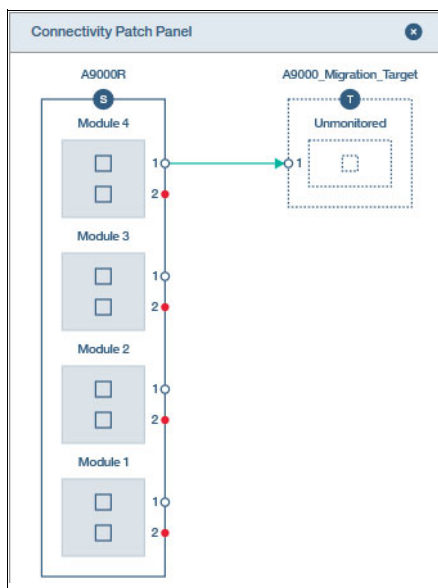

Figure 4-7 Connectivity details
- c. If the connection between IBM FlashSystem A9000R and the target system (IBM FlashSystem A9000) is successful, the connection is displayed as connected (with a check mark) and you can select **Connectivity Details** to view the connectivity, as shown in Figure 4-7.